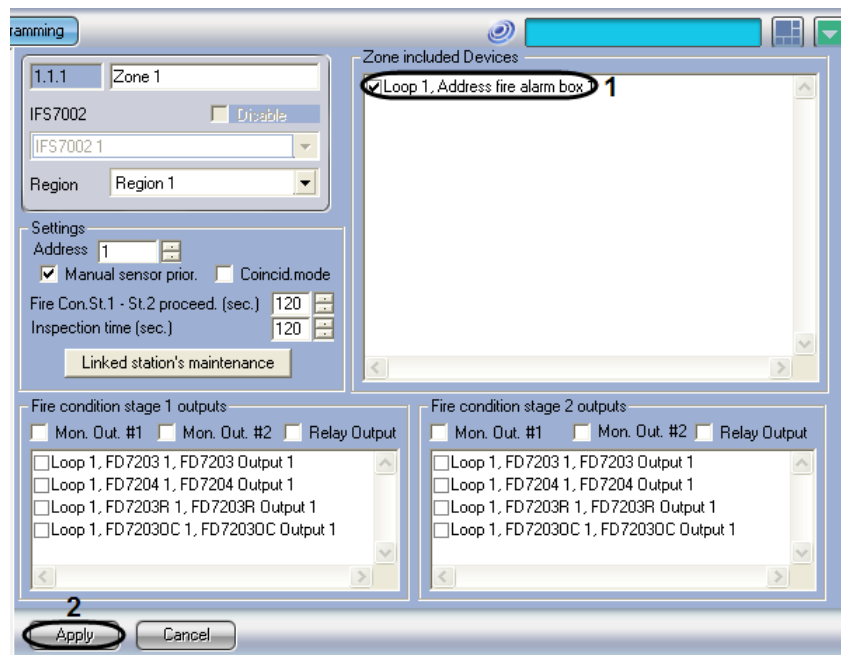

Fig. 3.7—5 How to include detectors in a zone
- Go to the settings panel of the “Zone” object (Fig. 3.7—5).
2. In the “Zone Included Devices” group, check the required addressable detectors (see Fig. 3.7—5, 1).